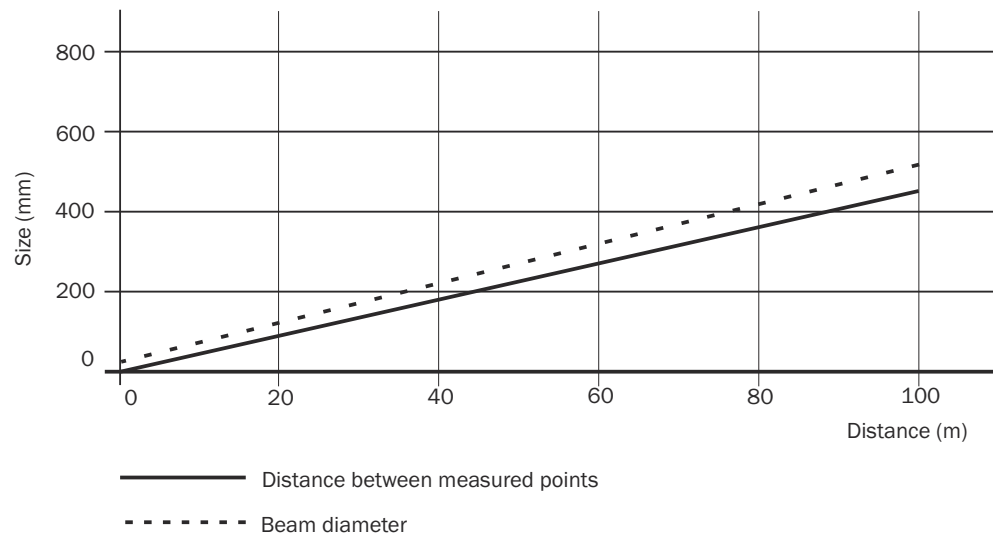

Figure 4: Beam diameter and measuring point distance at 0 to 100 m
- The beam diameter and measuring point distance as a function of the distance from the device can be seen in the diagram, see figure 4, page 19.